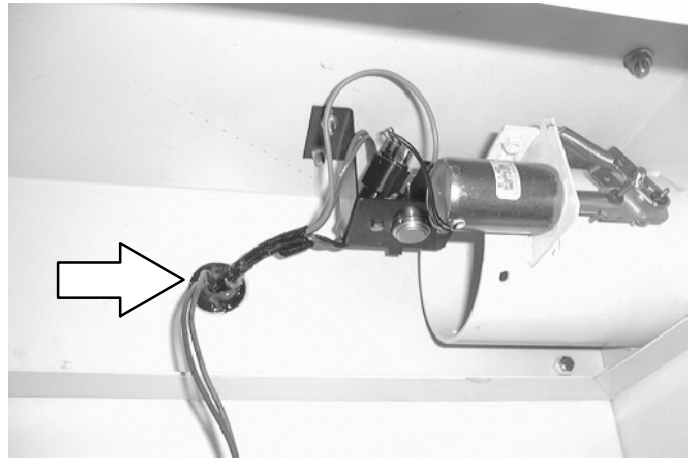

FIG. 8
16. Run the wire harnesses through the grommet, and RTV both sides of the grommet to seal around the wire harnesses properly. (Refer to FIG. 8 and 9)